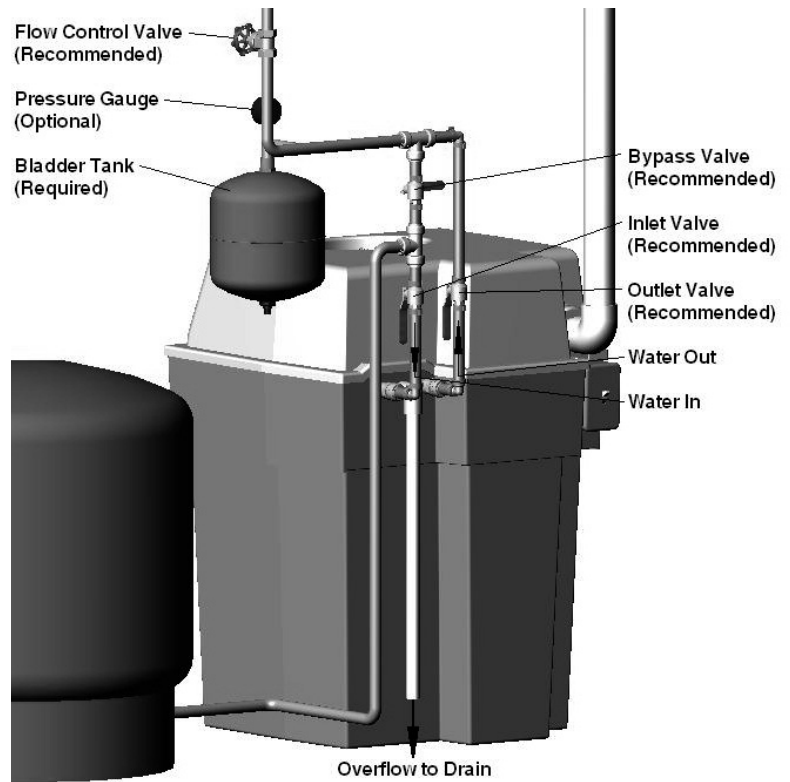

**Figure 6- Water Connections, Unit Only**
4. Plumb unit "Water In" connection (figure 6) to the inlet inlet valve (figure 7).
5. Plumb unit "Water Out" connection (figure 6) to the outlet valve (figure 7).